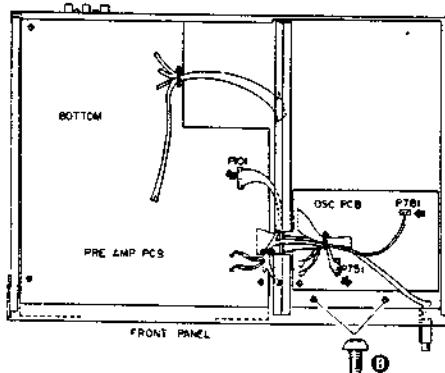

Fig. 3-4
- 1) Remove connector P101 from the PRE AMP PCB and the P751 and P781 from the OSC PCB. Next, remove mechanism block securing screws ④ (Refer to Fig. 3-4)